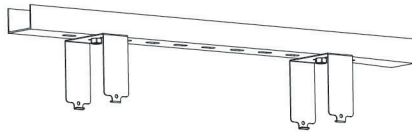

FIGURE 9
Step 1: Attach the bracket to the rail or ceiling (See Figure 9).